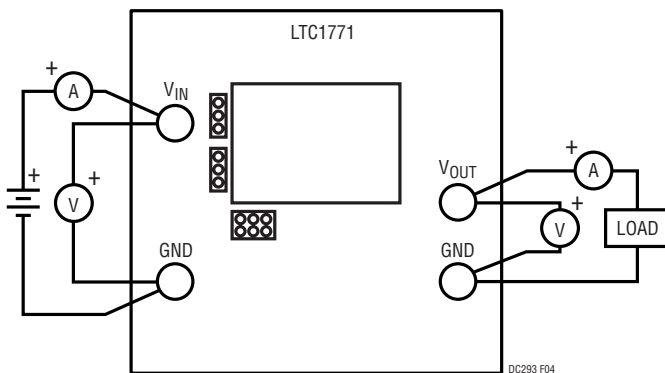

Figure 4. Correct Measurement Setup
- Connect the load between the  $V_{OUT}$  and GND terminals. Refer to Figure 4 for proper measurement equipment setup.
When measuring voltage regulation, remember that all measurements must be taken at the point of regulation. This point is where the LTC1771's control loop looks for the information to keep the output voltage constant. On this demonstration board, it is located between Pin 5 of the LTC1771, the signal ground and the output side of R5. These points correspond to the output terminals of the demonstration board. Test leads should be attached to these terminals. Measurements **should not** be taken at the end of test leads at the load. This applies to line regulation (input-to-output voltage regulation) as well as load regulation tests. In doing line regulation tests, always look at the input voltage across the input terminals. Refer to Figure 4 for proper monitoring equipment configuration.